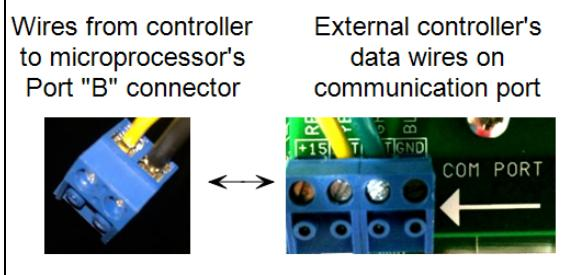

Figure 2
4. Connect control wires to the heat pump's "Port B" of the control board as indicated. See Figure 2 and Figure 3.